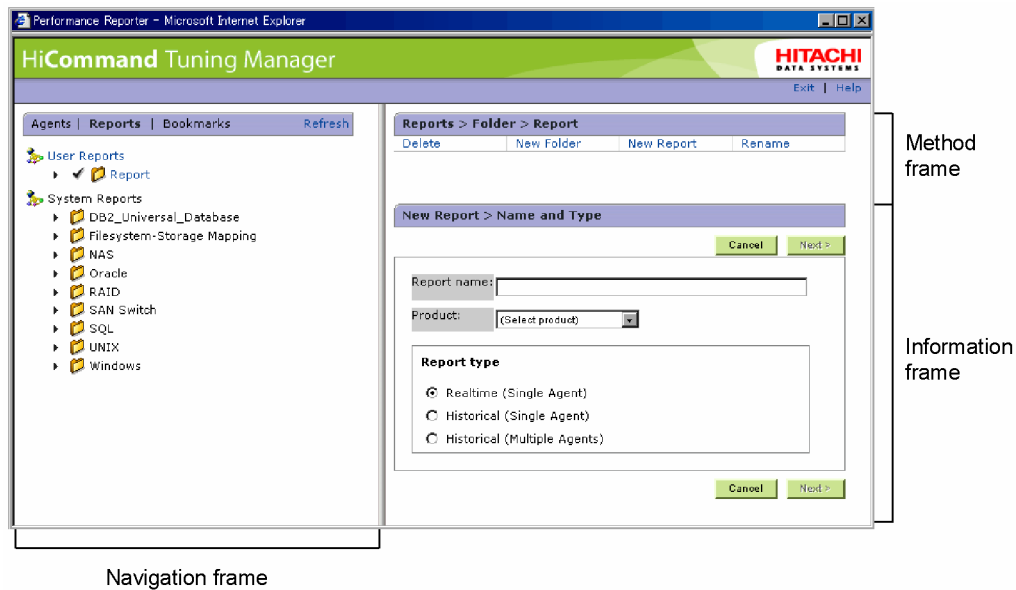

Figure 1.4 Report Wizard Window
3. In the Method frame, choose the **New Report** method. The Report Wizard window starts and the New Report > Name and Type window is displayed in the Information frame. Use the Report Wizard to enter the necessary items and finish creating the report. Figure 1.4 shows the Report Wizard window. For an example of creating a report from start to finish, see the *HiCommand Tuning Manager User's Guide*. The *HiCommand Tuning Manager User's Guide* also describes how you can create reports by customizing the pre-defined reports (solution sets).